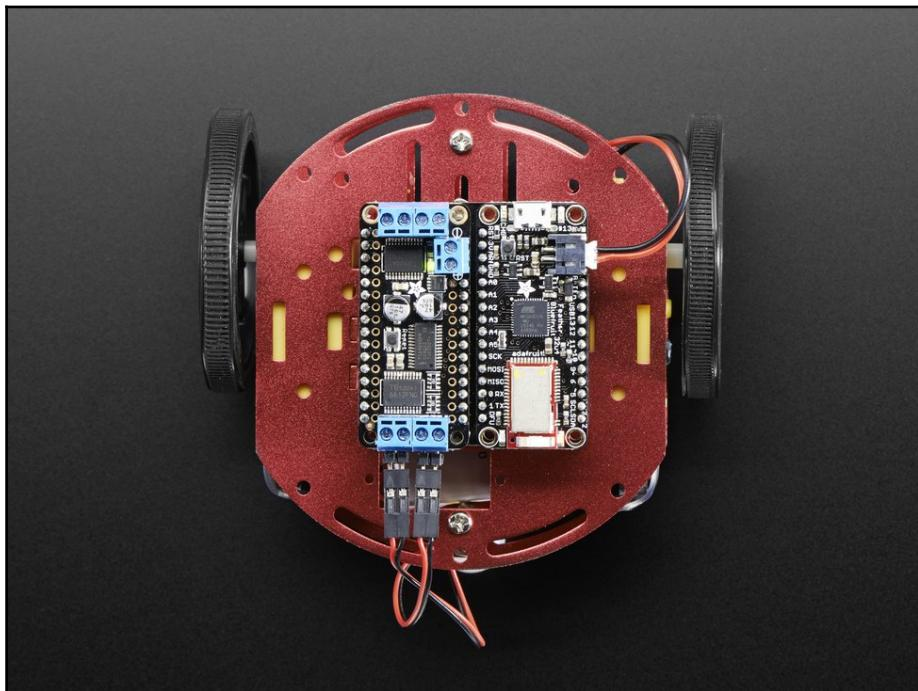

Figure 4.5: Stacking the Feather HUZZAH and Motor shield on top of the FeatherDoubler. Image courtesy of Adafruit Industries—<https://www.adafruit.com>
5. Stack the Feather HUZZAH and the DC Motor + Stepper FeatherWing on top of the FeatherDoubler (*Figure 4.5*):